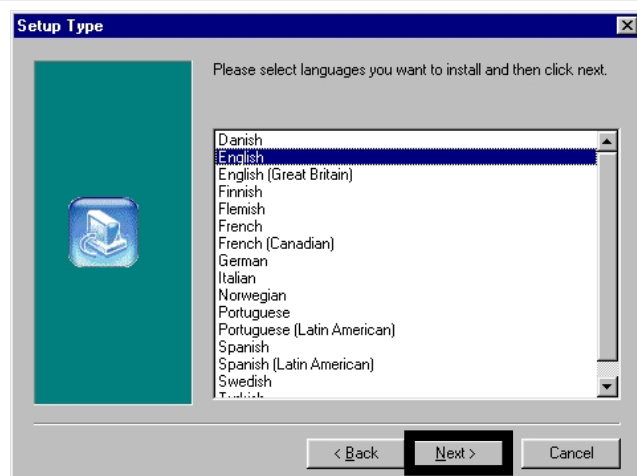

Figure 3-12
10. The next screen to appear is the language selection screen. The aligner has many different languages for easy user interface. Select the languages for this installation and then click **<NEXT>**. (Figure 3-12)